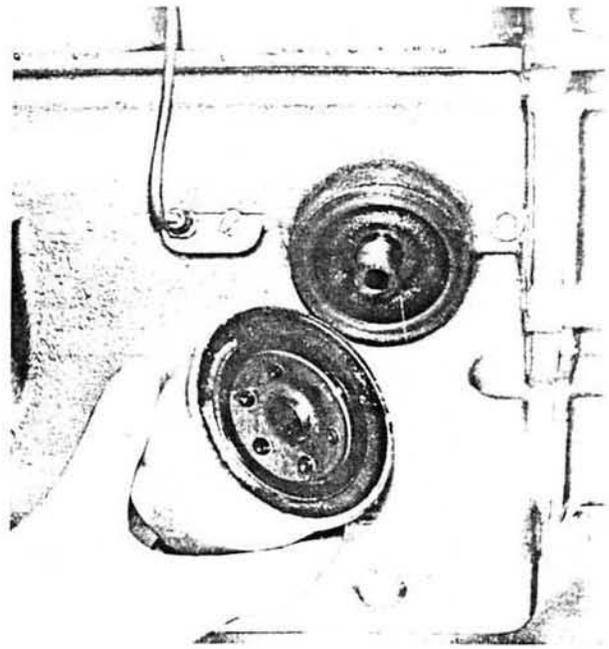

Fig. 45. Removing the oil filter
1. Screw off the old cleaner, Fig. 45.